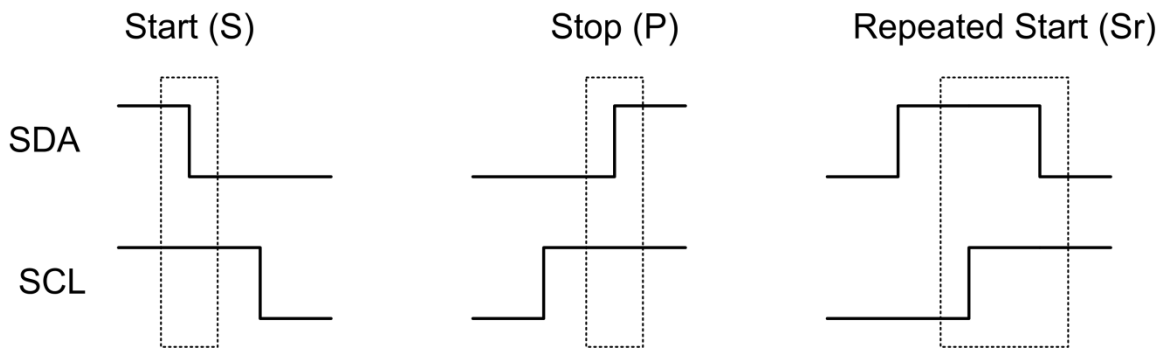

Figure 12. Start, Stop, and Restart Sequences
Command sequences are only issued by the bus master and accepted by a slave when the SCL line is high. Given this, there are only two commands that can be supported with the other pin alone, for negative edge (Start sequence or S) and positive edge (Stop sequence or P). The restart (Sr) sequence is issued by a start command (S) while the bus is not in the idle state. The purpose of the Sr bit is to allow a start command to be issued without the master relinquishing control of the bus. This also removes the need to issue an additional stop bit; instead a repeated start bit allows only a single bit to be transmitted without the master having to relinquish control of the bus. Figure 12 shows the signal sequences for S, P, and Sr, and Table 18 provides a brief overview of the command names and sequences, along with the phases typically used in I²C communication.